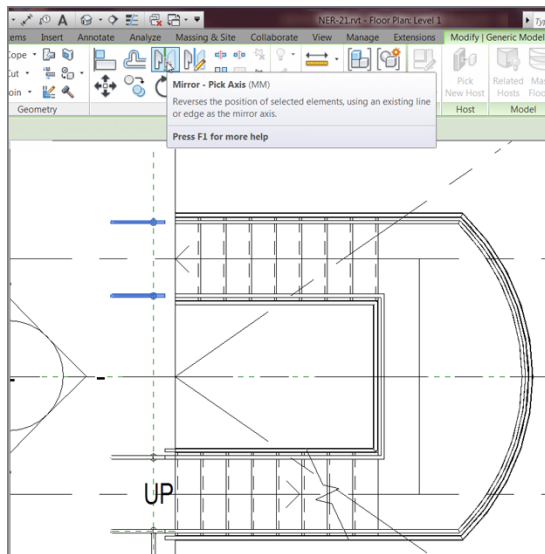

FIGURE 10.26: Mirroring and configuring the two railing extensions
1. Still on the second floor, select the two ADA - Pipe families, and click the Mirror - Pick Axis button as shown in Figure 10.26.